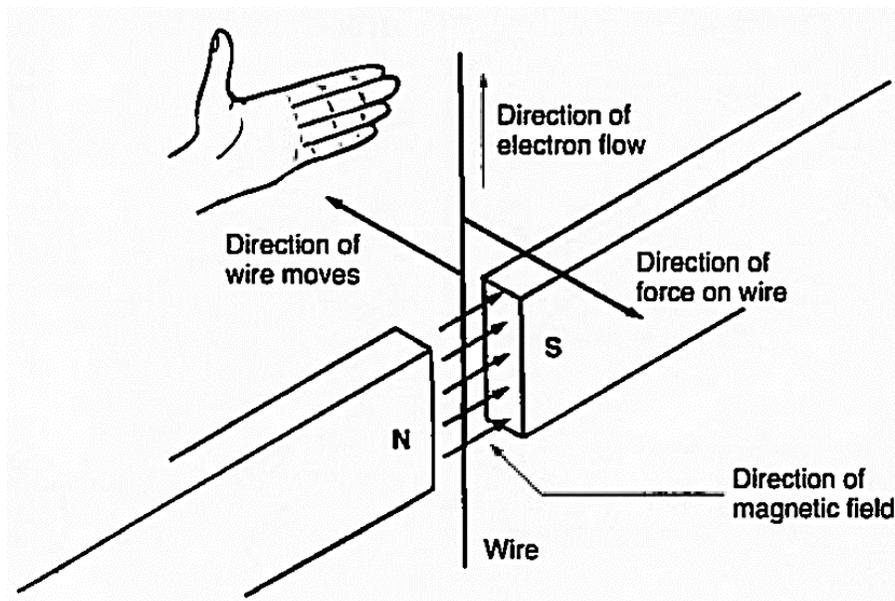

Figure 4.9: Left-Hand Rule for Generators
- 4-43 Another use for the second left-hand rule concerns the production of an electric current in a generator. Figure 4.9 shows the simplest possible generator. It consists of a conductor moving through a magnetic field. As the conductor moves, the magnetic field forces electrons to move along the conductor.
4-43 Another use for the second left-hand rule concerns the production of an electric current in a generator. Figure 4.9 shows the simplest possible generator. It consists of a conductor moving through a magnetic field. As the conductor moves, the magnetic field forces electrons to move along the conductor.
4-44 To figure out which way the electrons move, you first point the fingers of your left hand in the direction of the magnetic field, as shown in Figure 4.9. Then you turn your palm so that it "pushes" in the direction of the force exerted by the field on the conductor.